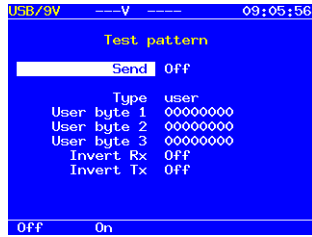

Figure 8.5. “Test pattern” menu
8.3.1. In the main menu, select the **Test pattern point** and press (Enter) button. „Test pattern” section will appear on the screen (Figure 8.5).